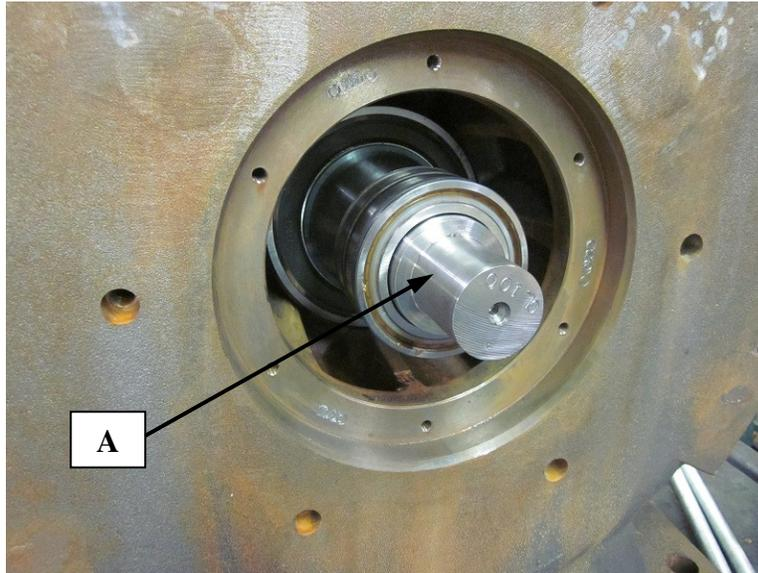

Figure 15
- Once the rotor support equipment is installed, place the new shaft assembly, "A", into the rear of the machine. Push the assembly into position so that the front of the shaft and the bearing hold the shaft in place while the shaft installation equipment is assembled. Refer to Figure 15.